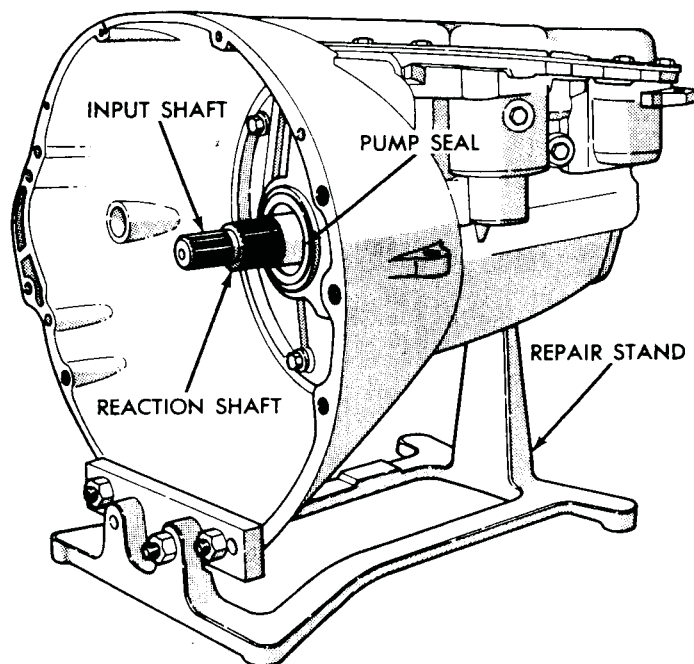

Fig. 5—Transmission in Repair Stand
(1) Place transmission assembly in repair stand, Tool C-3750-A (Fig. 5).
(2) Remove oil pan bolts and remove oil pan and gasket.